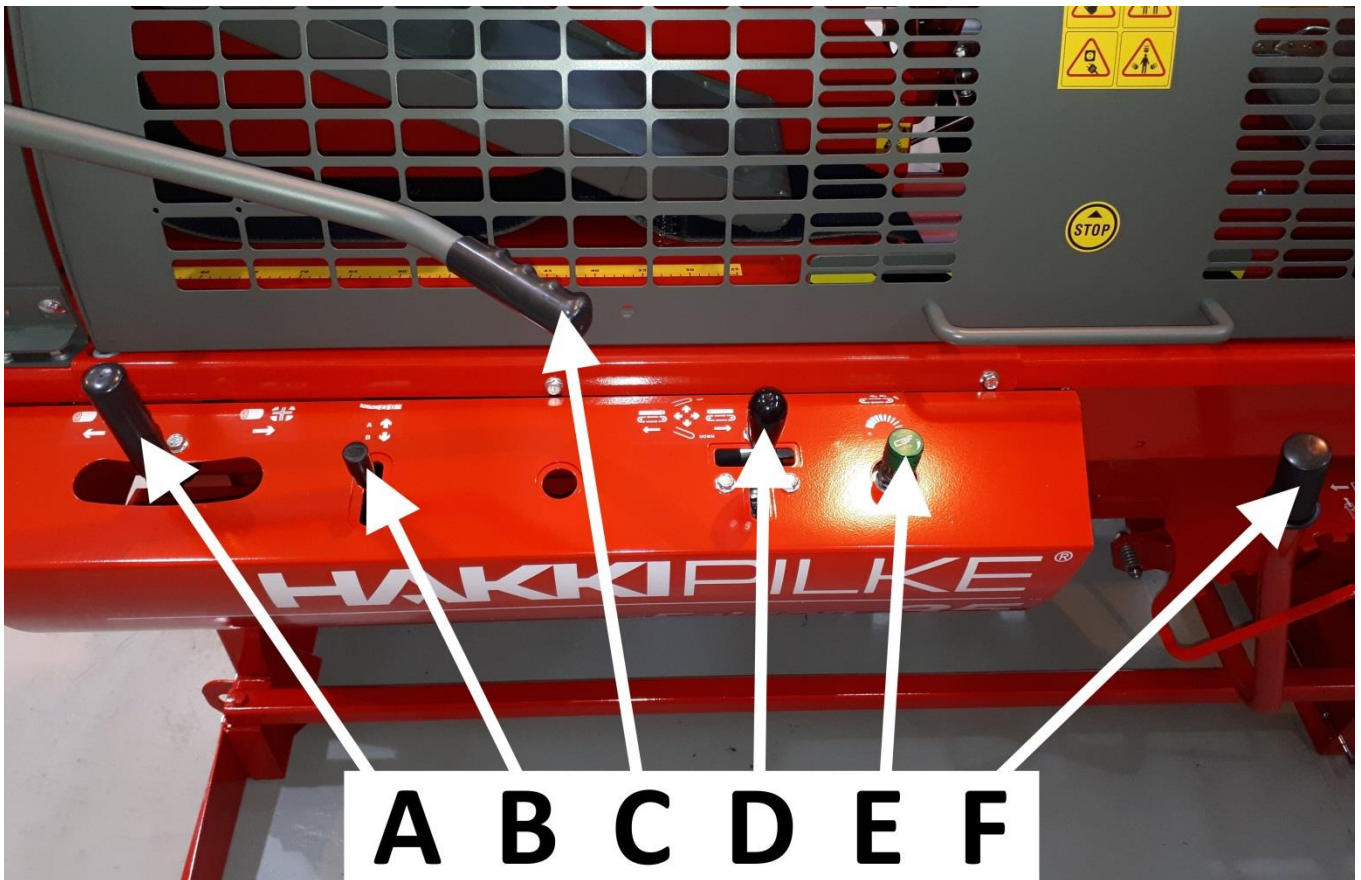

Figure 11
Connect the additional hydraulics (HakkiLift log lifter or HakkiFeed log table separator) by inserting the hydraulic hoses of the accessory into quick couplings **A** (red) and **B** (black) (Figure 9). Use the quick couplings with control lever **B** (Figure 11).
Hydraulic in-feed rollers and HakkiFeed log tables can be connected in series with the machine's in-feed conveyor. In this case, the in-feed rollers function automatically in synchronisation with the in-feed conveyor when logs are being fed in with lever **D** (Figure 11).
#### Names and functions of the controls (Figure 11):
6. Activate the machine's splitting motion by lowering the saw bar fully into the lower position and lifting it back up using lever D (Figure 11). The splitting motion must be normal. The splitting motion can also be activated by pulling lever A to the right (Figure 11).
- a. Use lever D (Figure 11) to perform a few sawing motions without any actual logs.
8. Ensure that the saw chain starts running when you lower the saw bar by about 2 cm using lever D (Figure 11).
10. Ensure that the splitting blade returns to the initial position (in the middle of the splitting motion) also by pushing lever A (Figure 11) to the left.
11. Test run the feed and return motion of the in-feed conveyor using lever D (Figure 11) by pushing the lever to the upper right (belt runs to the right) and upper left (belt runs to the left).
12. Start the out-feed conveyor by using control E (Figure 11) to adjust the speed to an appropriate level for the conveyor.
The in-feed conveyor feeds the wood to be processed into the machine. Feed wood into the machine using control lever D in Figure 11 of Section 3.1.
3. Once the log stops for cutting in the mechanical measuring device, lock the log in place with the wood press by pressing handle C of the press (Figure 11) downward.
4. Cut the log by pulling lever D back, which activates the saw chain and lowers the saw bar (Figure 11).
5. Return the saw bar to the raised position by pushing lever D (Figure 11) forward, **which automatically activates the splitting function.**
When sawing wood, the second to last piece should be sawn in such a way that the remaining piece is of a sufficient length. This ensures that the log will stay firmly under the log press and that the sawing will be steady and safe. Drive the last piece of wood directly into the splitting section, and start the splitting process with control lever A or lever E (Figure 11).
The splitting beam performs the splitting motion automatically whenever the saw bar is lowered all the way down using lever E (Figure 11) and raised back up again. In other words, the splitting motion starts automatically when the log is dropped into the splitting groove after cutting and the saw bar is lifted back up.
In addition to this, control lever A (Figure 11) can be used to activate the splitting by pushing the lever briskly to the right and returning it to the initial position. This function is useful, for example, when the last log to be split
The machine's splitting motion can be interrupted by pushing control lever A to the left (Figure 11). **The splitting can also be halted by raising the machine's guard when the saw bar is in the upper position.**
4. Activate the splitting using lever A (Figure 11).
The belt of the Hakki Pilke Falcon firewood processor's out-feed conveyor is driven by a hydraulic motor. To change the speed of the belt, use adjuster F (Figure 11). The optimal speed for the cleaning out-feed conveyor belt can be determined by trying different settings. The split logs should only just pass over the plate. The separation plate can be adjusted with adjustment screws B in Figure 25.